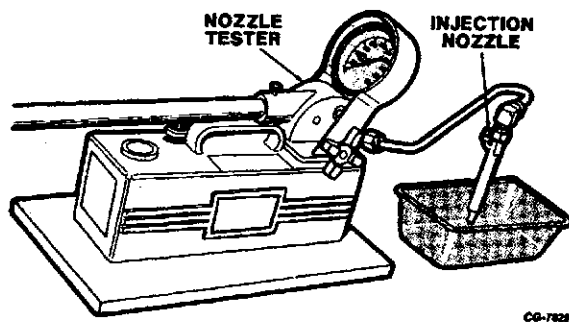

Figure 12.6. Mount Nozzle Assembly to the Hand Test Pump
- a. After removal from engine, test nozzles for spray condition, opening pressure and leakage on a hand test pump ZTSE-4045A. Figure 12.6 shows an injection nozzle mounted for testing on the hand test pump.